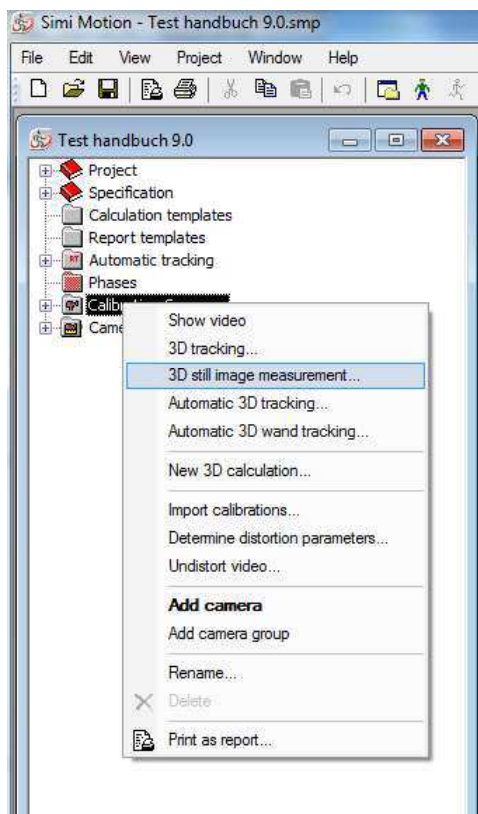

Figure 17.24: 3D still image measurement
-  Calibration cameras >> 3^D still image measurement (cf. figure 17.24)